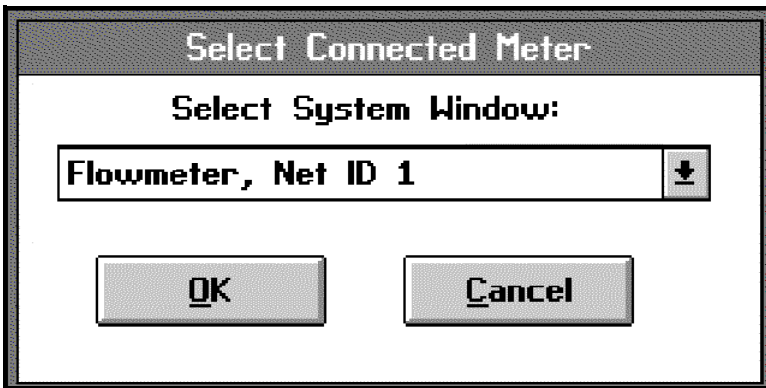

Figure 4-2: Instrument Selection
1. Choose the **Select an Existing Instrument** command (**ALT+G** and **ALT+S**). A window similar to the one shown in Figure 4-2 below appears.